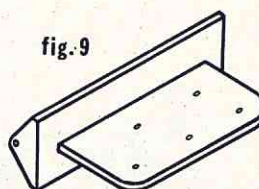

fig. 9
STEP 9. Remove the hinge pieces and drill or punch 3 to 5 1/16" holes in the webs for better glue adhesion. (Fig. 9)